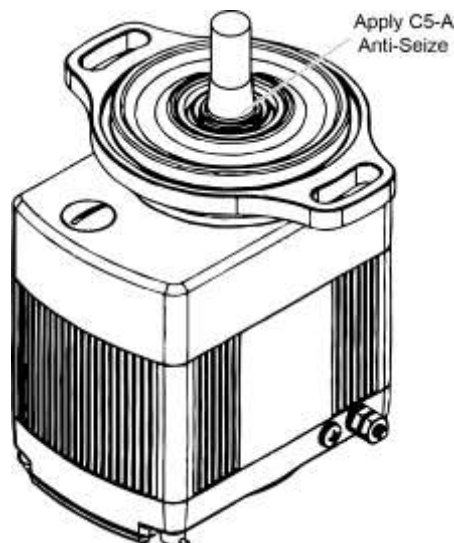

Figure 4
- (1) Install the Drive Gear (Magneto Gear):
- (a) Apply a light coat of C5-A Copper-Based Anti-Seize compound to the tapered section of the EIS driveshaft (Figure 4).